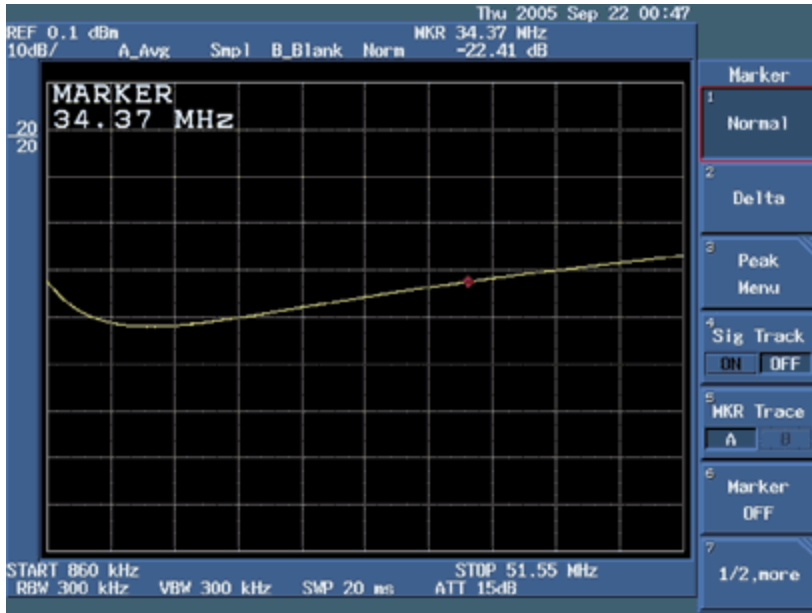

Figure 12. Return loss of the DUT at 34.37MHz.
10. Measure the return loss at 34.368MHz for the DUT, as shown in **Figure 12**.